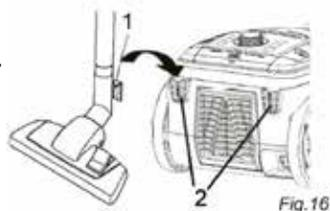

Fig.16
- To store it or when taking a break from your work, you can hook the park/storage hook (Fig. 16/1) into the parking (Fig. 16/2) bracket.